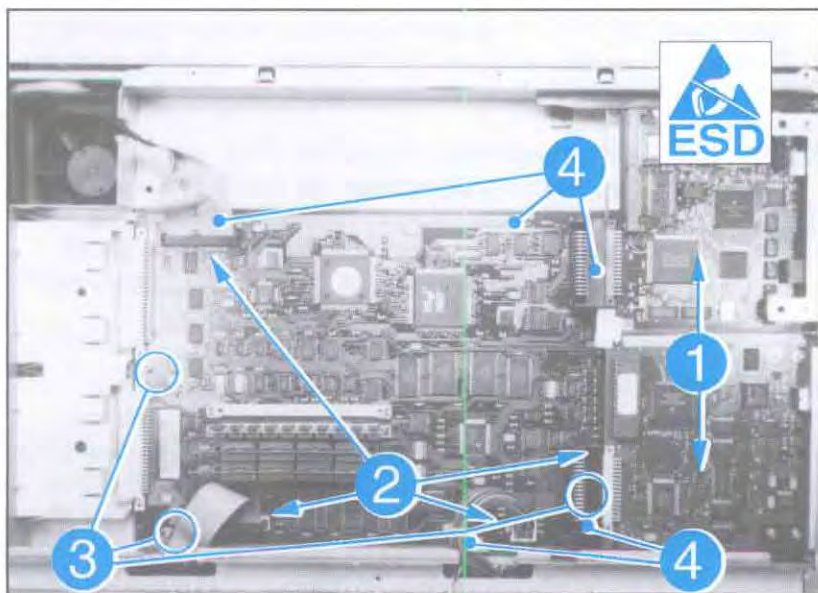

Figure 6-14. Formatter PCA (LaserJet 4Si)
3. Remove any MIO cards by removing the (2) mounting plate screws on the rear of the printer and sliding the card(s) out the rear (Figure 6-14, callout 1).
5. Unplug the (4) connectors on the PCA (Figure 6-14, callout 2). (The parallel cable connector is hidden behind the lower MIO card in Figure 6-14.)
6. Use a #1 Phillips screwdriver to remove the (3) shoulder screws securing the PCA (Figure 6-14, callout 3). (The right screw is hidden behind the lower MIO card in Figure 6-14.)
7. Unclip the (5) plastic retaining clips around the periphery of the PCA (Figure 6-14, callout 4). (The right two clips are hidden behind the MIO cards in Figure 6-14.)